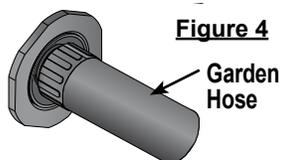

Figure 4
3. Push the garden hose and drain tube half-way back towards the spa (Figure 4) which will start the gravitational flow. Drain tube must be in the mid position for the spa to drain.